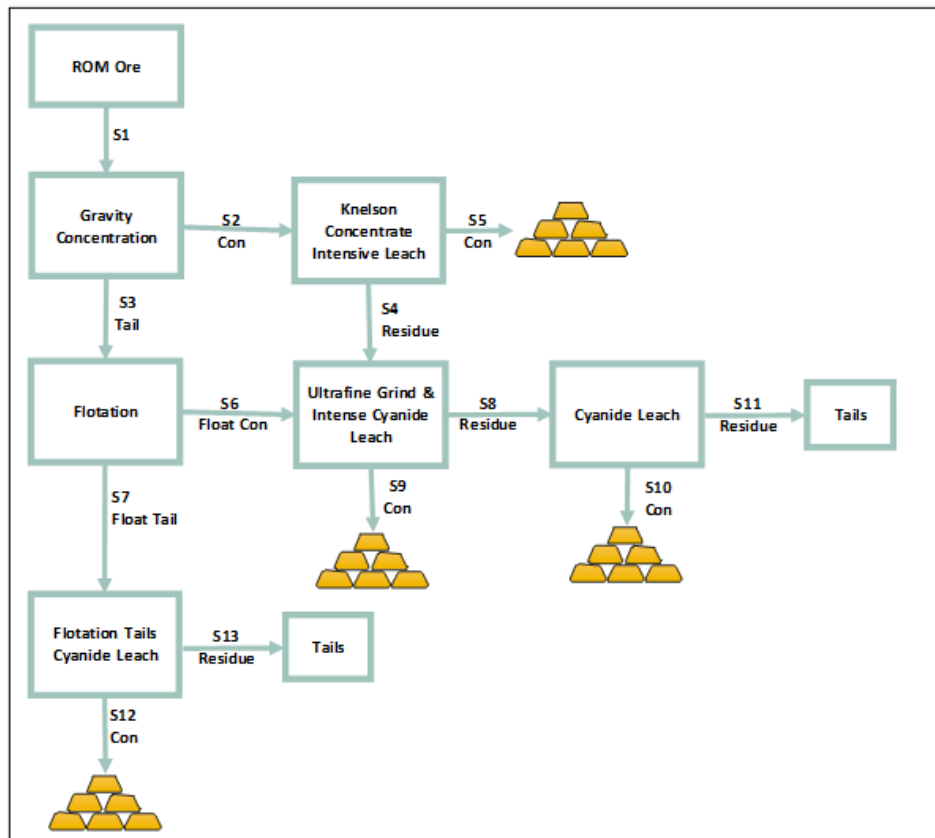

Figure 3 Flowchart for tests to emulate plant design
- Flotation tails go directly to leaching, as depicted in Figure 3.